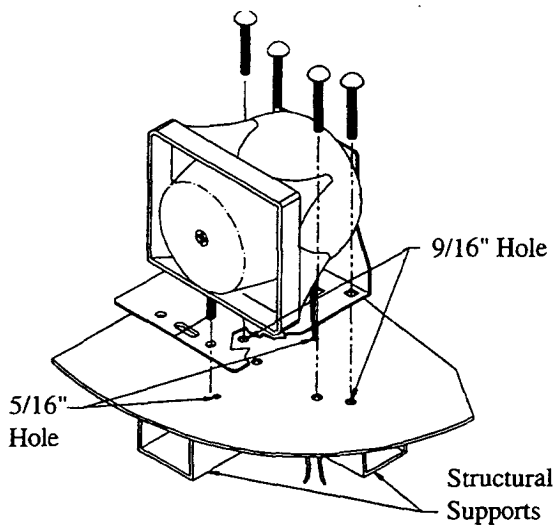

FIGURE 1
- 1) Mark positions for mounting the speaker using the bracket as a template. **PLEASE NOTE: Similar to what is shown in Figures 1 and 2, these positions must be over structural supports below the bumper surface.**
- 2) Drill holes at these inscribed positions in accordance to the following drill sizes. (Figure 1)